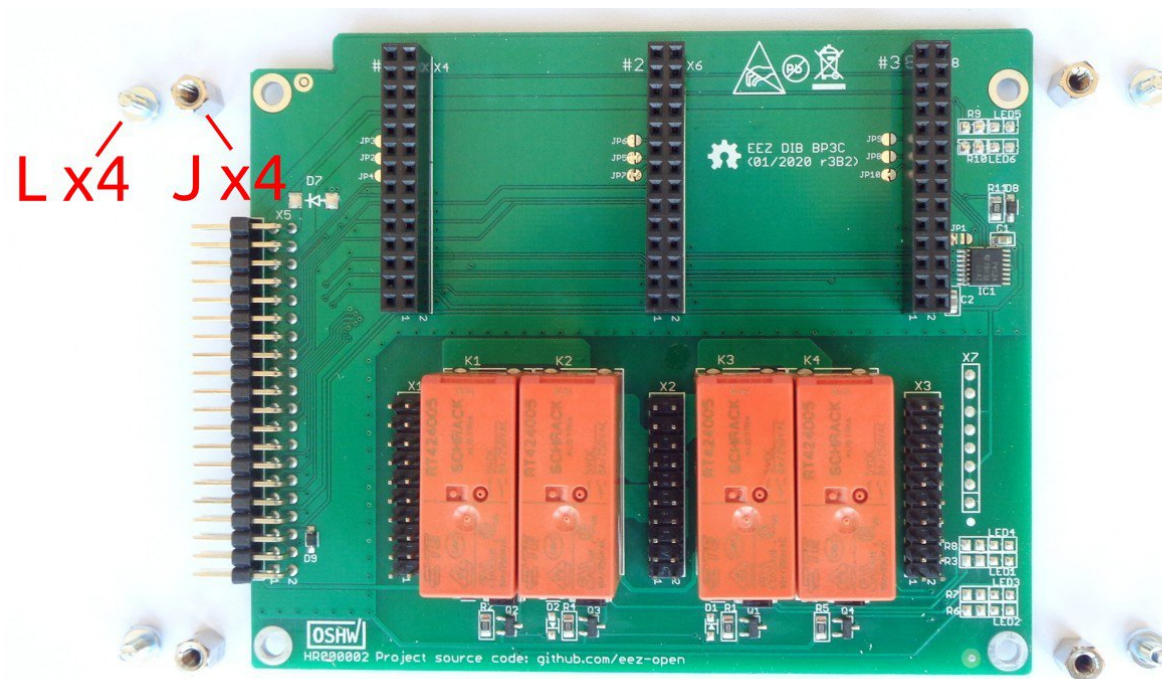

Fig. 10: BP3C backplane with mounting parts
Attach the hexagonal metal spacers (J) using screws (L) to the four holes at the corners of the module. Repeat the same procedure on the BP3C backplane shown in Fig. 10.